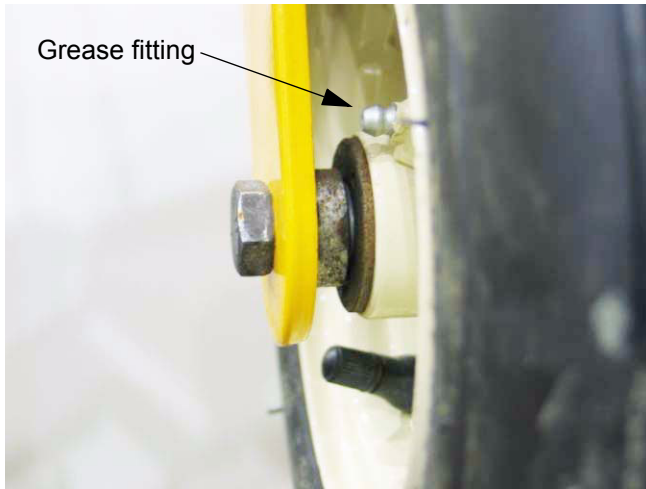

Figure 8.3
- 8.3. Using two 9/16" wrenches remove wheel assembly from caster bracket. See Figure 8.3.